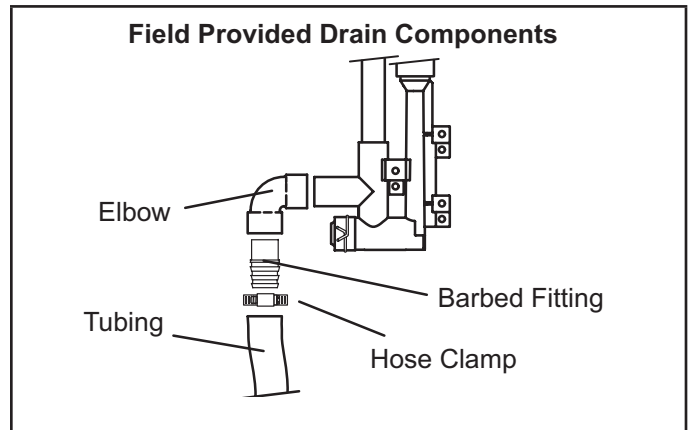

**FIGURE 43**
This unit is designed for either right- or left-side exit of condensate piping in upflow applications. In horizontal applications, the condensate trap must extend below the unit. An 8" service clearance is required for the condensate trap. Refer to figures 43 and 45 for condensate trap locations. Figure 51 (3/4" drain connection) shows a trap assembly using 1/2" PVC or 3/4" PVC.
- 2 - For furnaces with a 1/2" drain connection use a 3/8 allen wrench and remove plug (figure 43) from the cold end header box at the appropriate location on the side of the unit. Install field-provided 1/2 NPT